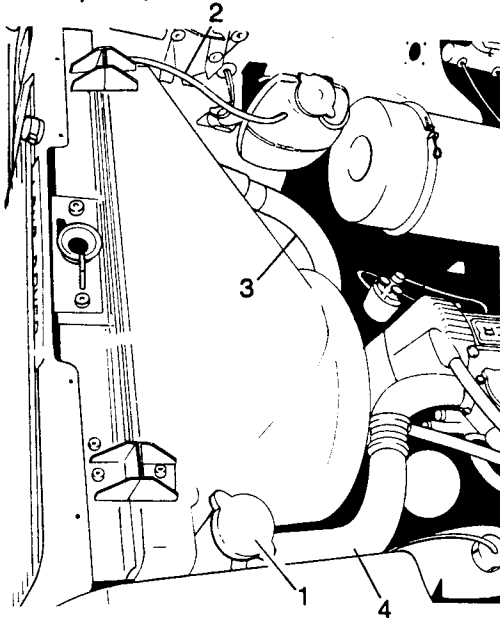

Fig E4.1
- (2) Refer to Fig E4.1. Remove the radiator filler cap (1).
- (3) Remove the lower radiator hose (3) and drain the radiator.
- (4) Disconnect the expansion tank hose (2).
- (5) Disconnect the top hose (4) from the radiator.
- (6) Lift the radiator clear of the bottom mountings.